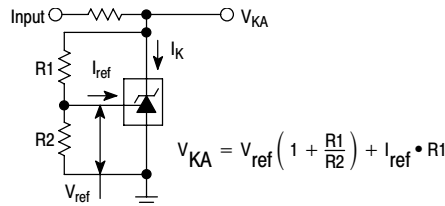

Figure 2. Test Circuit for $V_{KA} > V_{ref}$
- The dynamic impedance Z_{KA} is defined as: $|Z_{KA}| = \frac{\Delta V_{KA}}{\Delta I_K}$. When the device is programmed with two external resistors, R1 and R2, (refer to Figure 2) the total dynamic impedance of the circuit is defined as: $|Z_{KA}'| \approx |Z_{KA}| \left(1 + \frac{R1}{R2} \right)$
6. The dynamic impedance Z_{KA} is defined as $|Z_{KA}| = \frac{\Delta V_{KA}}{\Delta I_K}$ When the device is programmed with two external resistors, R1 and R2, (refer to Figure 2) the total dynamic impedance of the circuit is defined as: $|Z_{KA}'| \approx |Z_{KA}| \left(1 + \frac{R1}{R2} \right)$